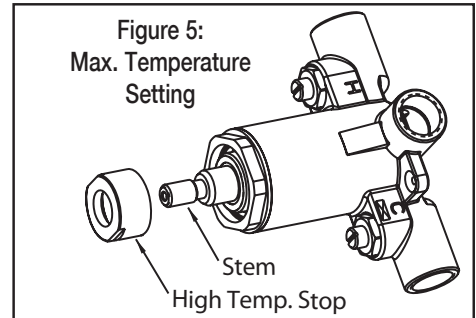

Figure 5:
- Maximum temperature setting adjustment (see Figure 5) must be set on the job to in no case greater than 110°F (43°C). The high temperature limit stop is located on the bonnet. Rotate handle to the maximum desired outlet temperature. With an open-end wrench, screw high temperature limit stop into bonnet until it touches stem's shoulder. Close valve and open it to full hot to verify settings.